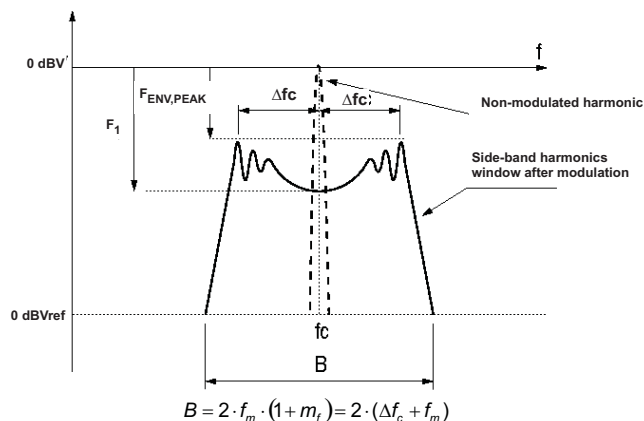
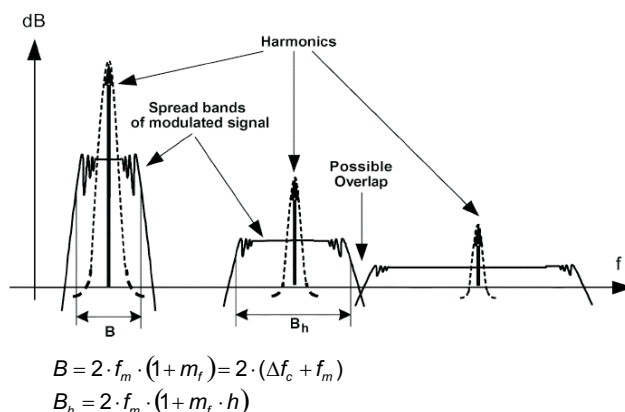

Figure 8. Spectrum Of A Frequency Modulated Sin. Wave With Sinusoidal Variation In Time
Figure 9. Spread Bands Of Harmonics In Modulated Square Signals ⁽¹⁾
Figure 8 and Figure 9 show that after modulation the sideband harmonic is attenuated when compared to the non-modulated harmonic, and when the harmonic energy is spread into a certain frequency band. The higher the modulation index (m_f) the larger the attenuation.
(1) Spectrum illustrations and formulae (Figure 8 and Figure 9) copyright IEEE TRANSACTIONS ON ELECTROMAGNETIC COMPATIBILITY, VOL. 47, NO.3, AUGUST 2005. See References Section for full citation.